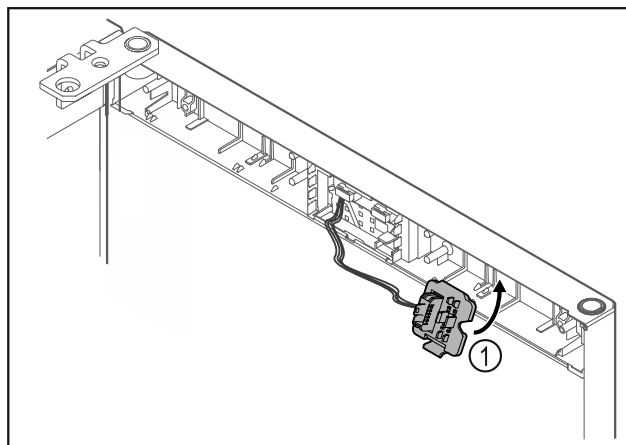

Fig. 19
- Engage the plug holder Fig. 19 (1) on the opposite side.*